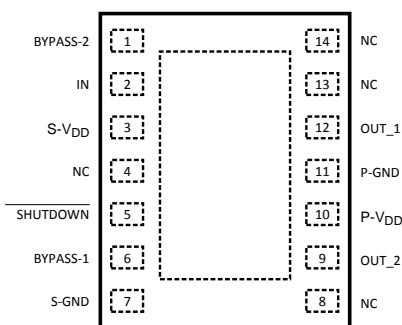

Figure 1. Top View
- (1) All voltages are measured with respect to the GND pin unless otherwise specified.
- (2) Absolute Maximum Ratings indicate limits beyond which damage to the device may occur. Operating Ratings indicate conditions for which the device is functional, but do not ensure specific performance limits. Electrical Characteristics state DC and AC electrical specifications under particular test conditions which ensure specific performance limits. This assumes that the device is within the Operating Ratings. Specifications are not ensured for parameters where no limit is given, however, the typical value is a good indication of device performance.
- (3) If Military/Aerospace specified devices are required, please contact the Texas Instruments Sales Office/ Distributors for availability and specifications.
- (4) The maximum power dissipation must be de-rated at elevated temperatures and is dictated by T_{JMAX} , θ_{JA} , and the ambient temperature T_A . The maximum allowable power dissipation is $P_{DMAX} = (T_{JMAX} - T_A)/\theta_{JA}$ or the number given in Absolute Maximum Ratings, whichever is lower. For the LM4668 typical application (shown in Figure 1) with $V_{DD} = 12V$, $R_L = 8\Omega$ stereo operation, the total power dissipation is 900mW. $\theta_{JA} = 40^\circ C/W$
- (5) Human body model, 100pF discharged through a 1.5k Ω resistor.
- (6) Machine model, 220pF – 240pF discharged through all pins.
The following specifications apply for the circuit shown in Figure 1 operating with $V_{DD} = 12V$, $R_L = 8\Omega$, and $f_{IN} = 1kHz$, unless otherwise specified. Limits apply for $T_A = 25^\circ C$.